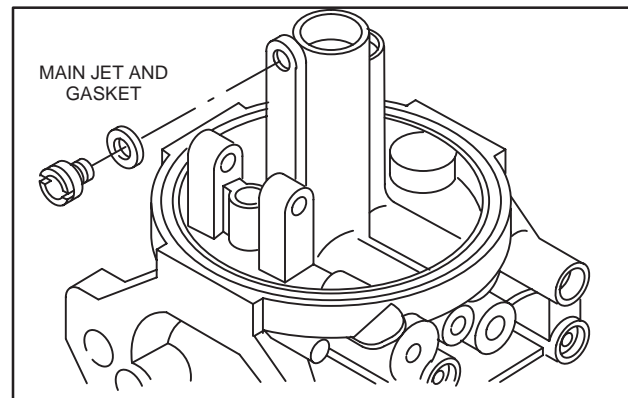

Fig. 31 – Removing Main jet
5. Remove fixed main jet and gasket, Fig. 31. Discard gasket.